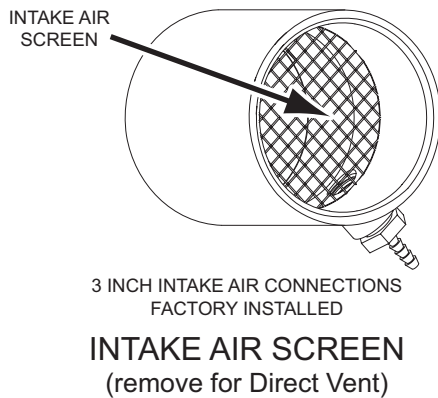

Figure 18
13. Ensure the Intake Air Screen on the Intake Air Connection to the water heater is removed before connecting the intake air pipe to the water heater. See Figure 18.